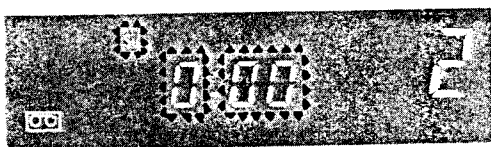

Fig. 9
2. Press the T-ADJ button. "Su 0:00" will appear on the display and flash. (Fig. 9)